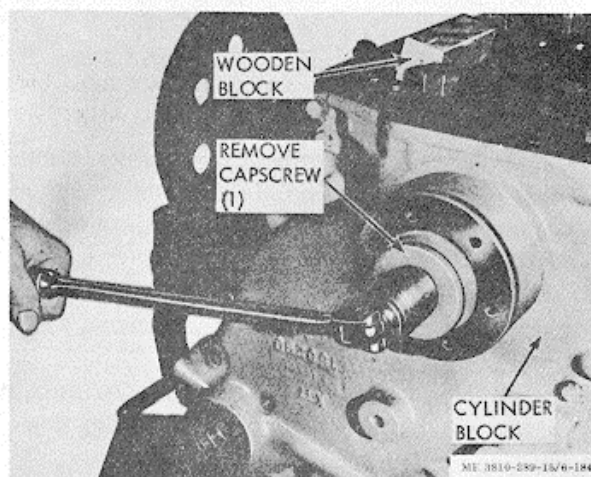

Figure 3-176. Crankshaft hub capscrew removal.
(1) Place a wooden block between a crankshaft counterweight and cylinder block wall to prevent crankshaft from turning (fig. 3-176).
(3) Remove capscrew and flatwasher securing hub to crankshaft, figure 3-176.